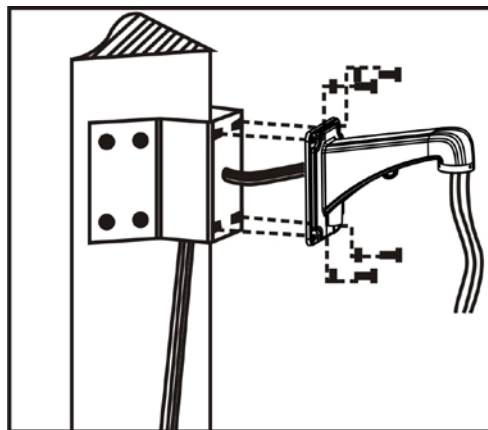

Fig 7
c. As shown in Fig7, fix the wall hanging bracket with all cables power through it on the corner mounted attachment.